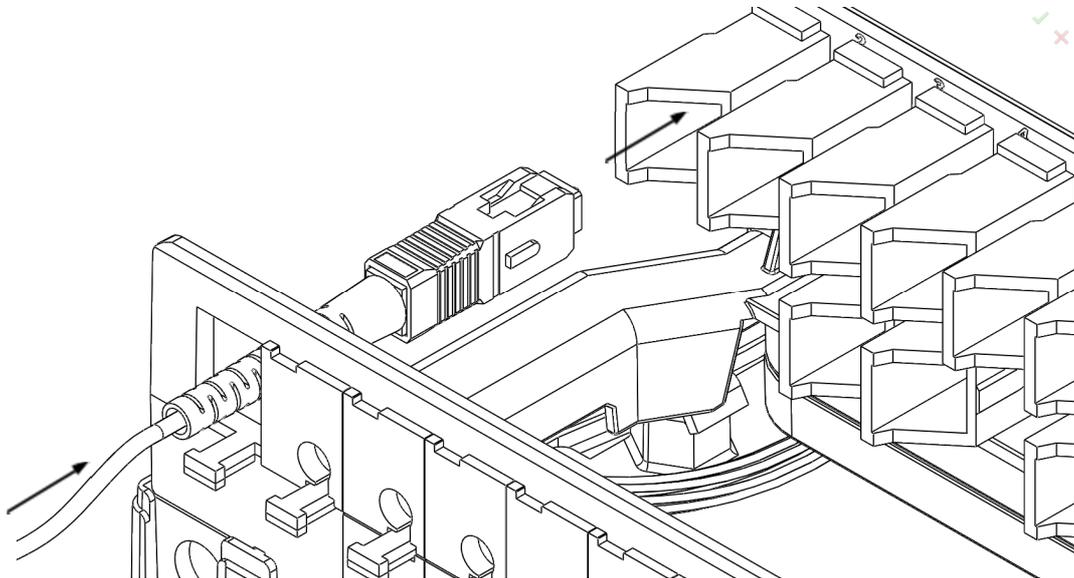

Fig. 28
4.6.4. Pass the connector through the face plate (Fig. 28);